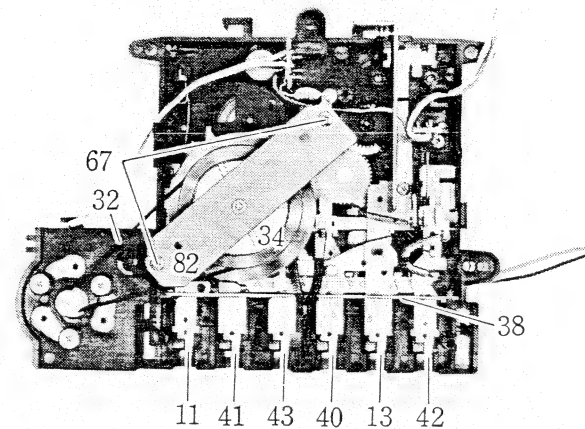

Figure 25.
2. Remove two 67 and 82. Remove 32, 20, 66, 34, 19 and 33 in order. (Fig. 25)